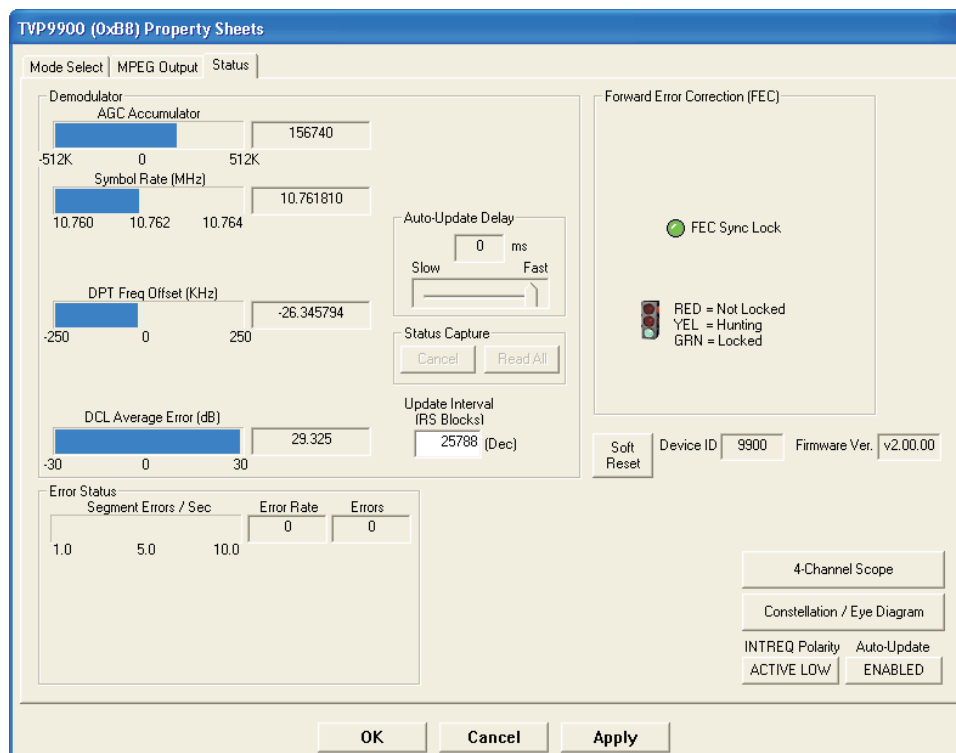

Figure 6. TVP9900 Property Sheets
15. Open the TVP9900 Property Sheets window by clicking on Edit → Property Sheets → TVP9900. Click on the Status tab, as shown in Figure 6. Click the Auto-Update button to enable it, and then click the Soft Reset button. The demodulator and forward error correction status is shown on this page.